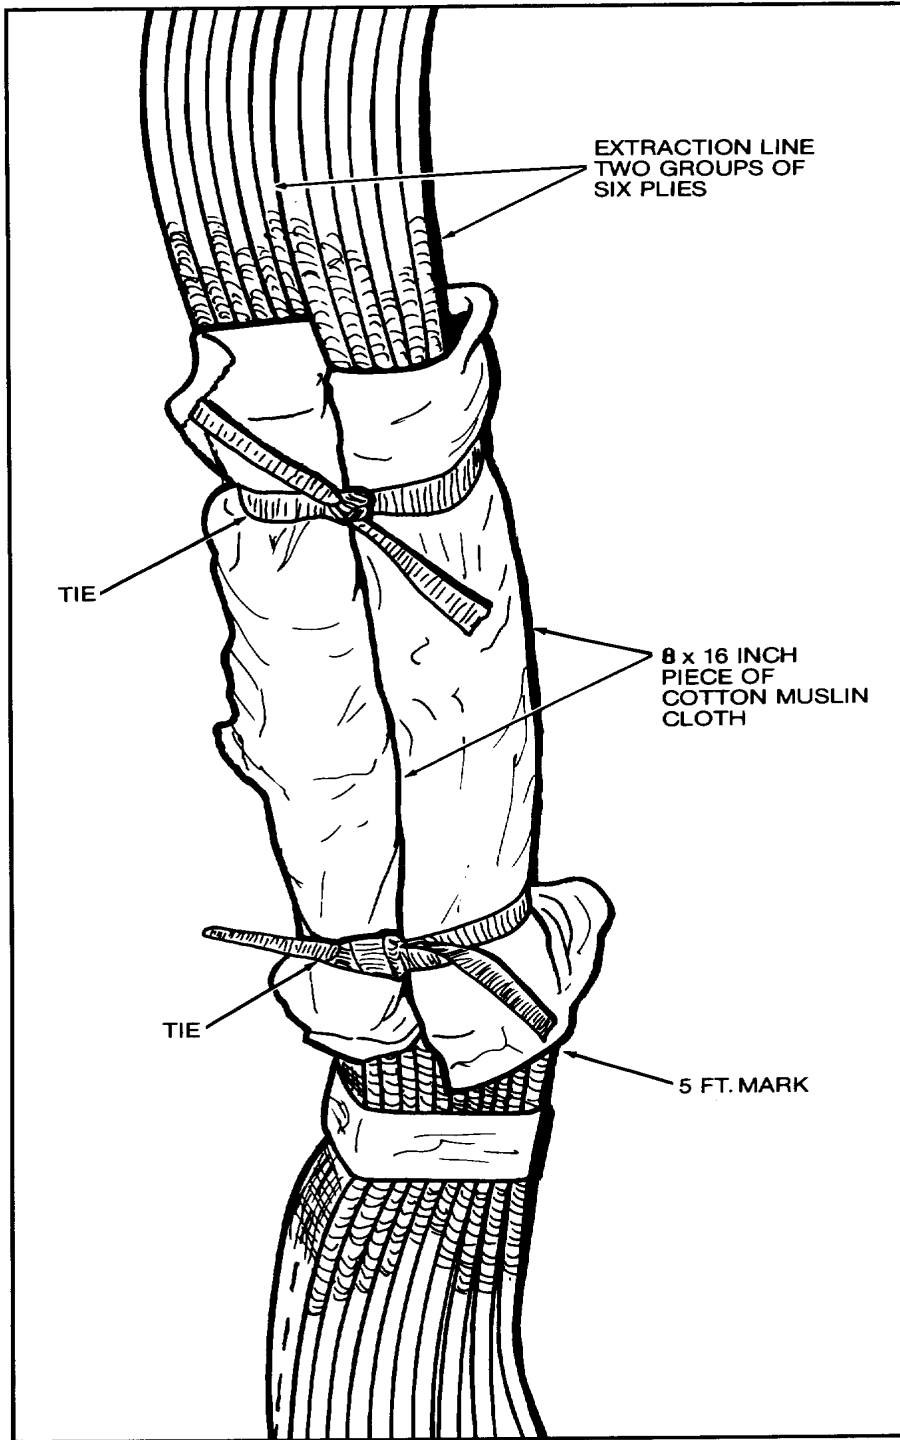

Figure 2. Extraction Line Separated into Two Group of Six Plies and Wrapped with Cloth.
- b. Secure wrapped plies together at each end with two turns of single ¼-inch wide type I cotton webbing tie with surgeon's knot and locking knot (figure 2).